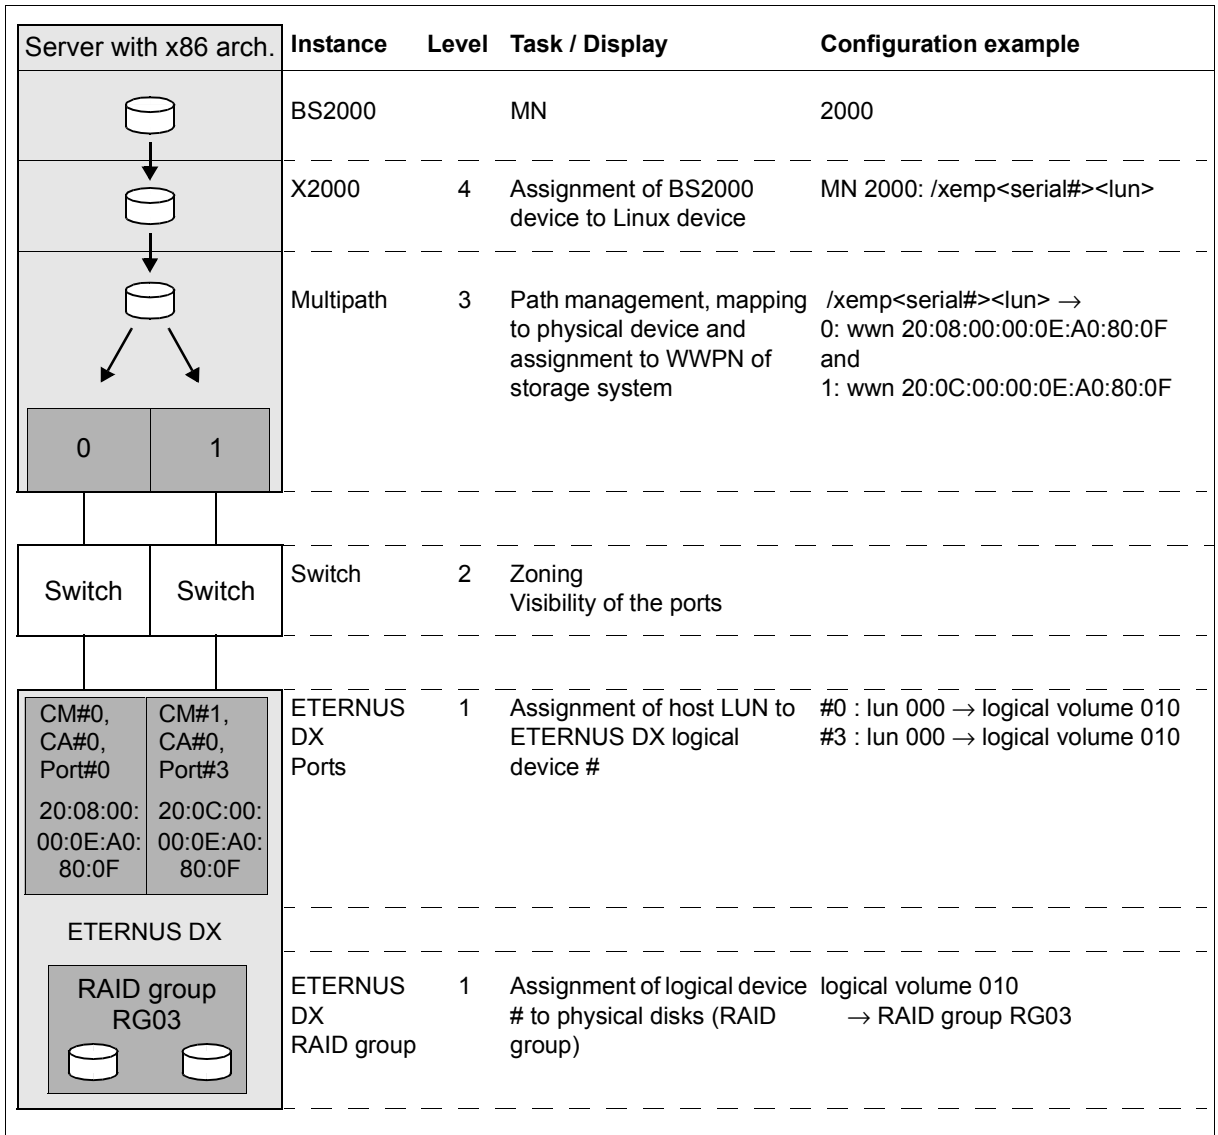

Figure 5: Configuration of the units on x86 servers for ETERNUS DX
BS2000 disks which are connected to an x86 server via Fibre Channel are mapped to the configured Linux disks. These are operated using one or more Fibre Channel HBAs (Host Bus Adapters). The Linux disks are connected to the storage system directly or via a Fibre Channel switch. BS2000 disks connected to x86 servers via Fibre Channel must be configured on storage system (1), switch (2) and X2000 (4) levels (the level numbers as used in figure 5 on page 38 are in parentheses). No special configuration is necessary at Linux level (3). Generation in BS2000 is **not** required.